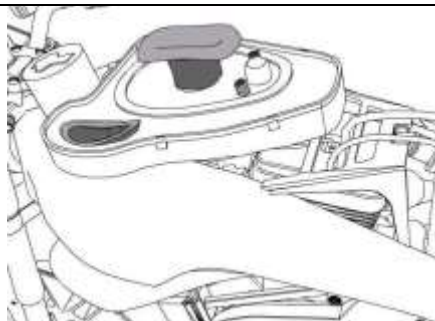

Figure 8
6. Beginning at the intake snorkel, work the snorkel flange through the air box floor, slowly lifting the air box floor as you go. (Figure 8)